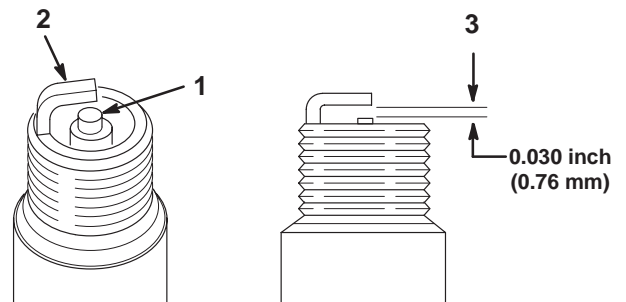

Figure 39
1. Look at the center of the spark plug(s) (Fig. 39). If you see light brown or gray on the insulator, the engine is operating properly. A black coating on the insulator usually means the air cleaner is dirty.
2. Check the gap between the center and side electrodes (Fig. 39). Bend the side electrode (Fig. 39) if the gap is not correct.